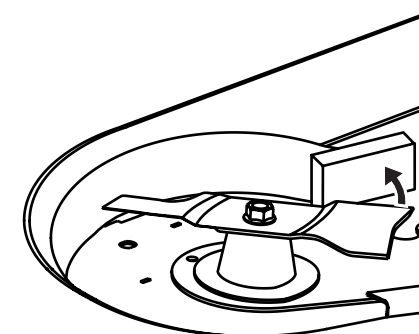

Figure 4-21
1. Secure the blade from turning counter clockwise during service by placing a block of wood between the blade and the deck housing, see Figure 4-21, or wrap a rag around one end of the blade and grasp the blade firmly.